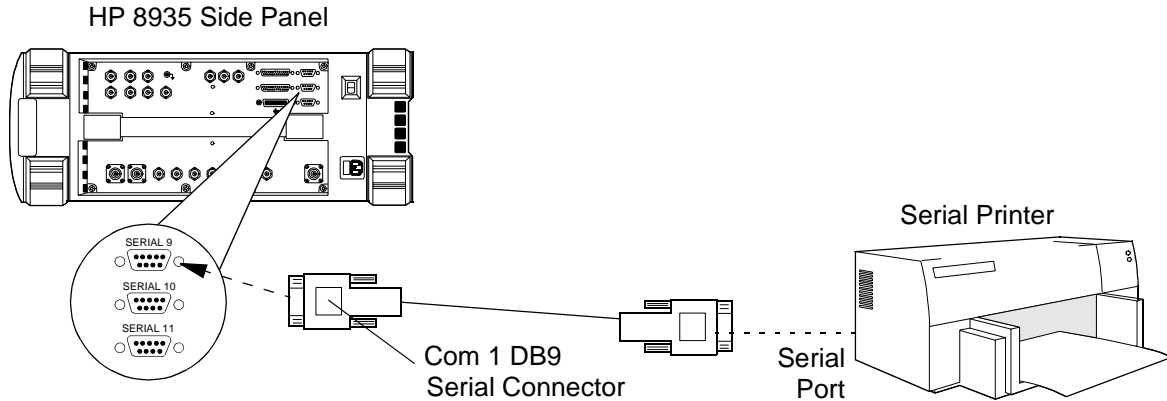

Figure 38 Test Set to Serial Printer Connection
5. Connect the serial printer to the Test Set's SERIAL 9 port (see figure 38).